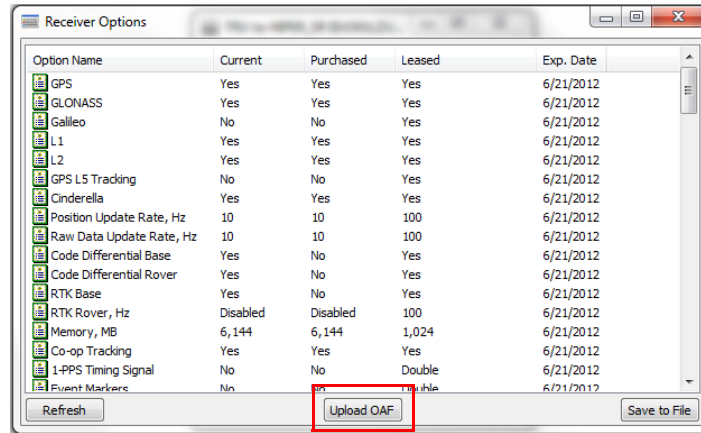

Figure 10: Receiver Options
3. Click the **Options**  icon in the main window. The **Receiver Options** window (Figure 10) displays, so you can view the current authorization options and upload new ones.
- Click **Upload OAF** on the bottom of the **Receiver Options** window (see Figure 10).